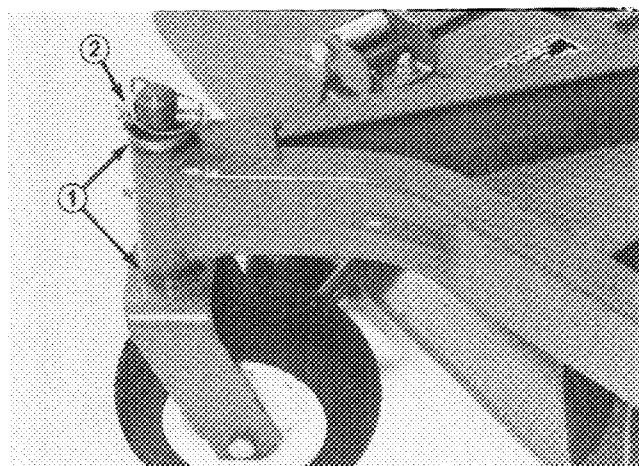

Figure 34
side of the cutting unit raised. Remove the lynch pin securing castor wheel on low end (Fig. 34) and remove castor assembly.
- C. If cutting unit is operated at 2 to 4 in. (51 to 102 mm) height-of-cut, lower the high side of cutting unit. Remove lynch pin of castor at high end of unit and remove castor assembly (Fig. 34).